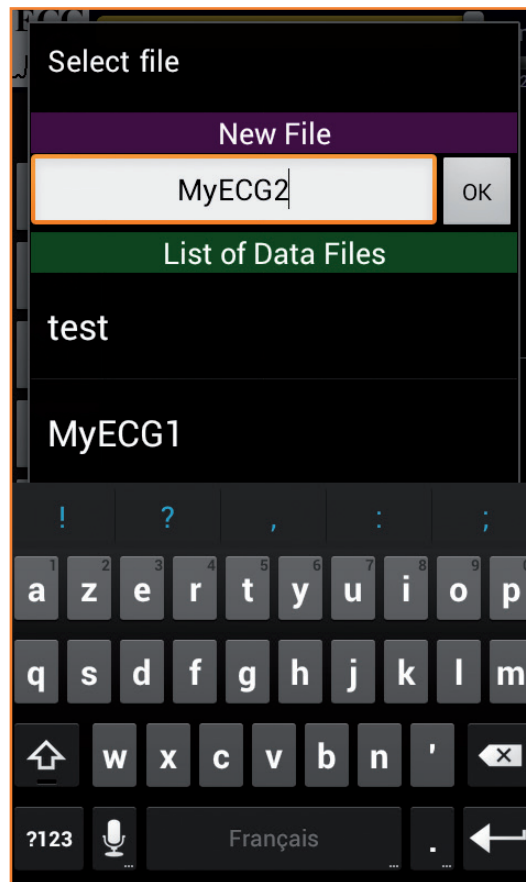

Figure 18. Selecting the file for saving or loading ECG reports.
**FileListActivity:** This activity is created when the user chooses to save or load ECG reports from the menu. It displays the list of existing files, along with an edit window for editing the name of a new file (**Figure 18**). The window and the activity are closed when the file is selected, after a sending a message including its name and the nature of the operation (*save* or *load*) to the main activity. The main activity then performs the operation requested.